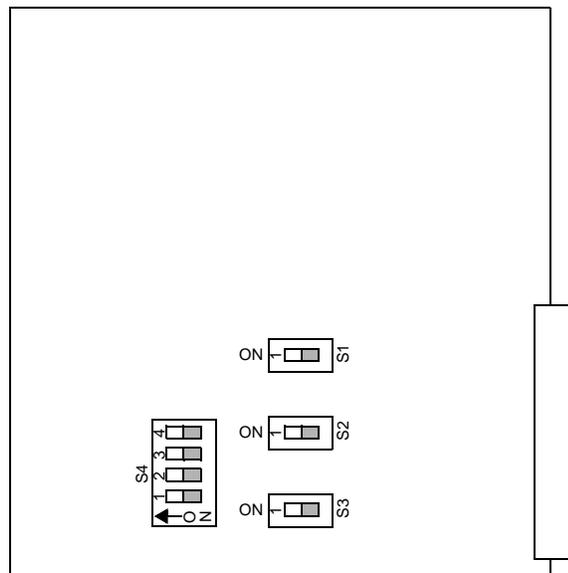

Figure 3-2 2585 module option switch locations
- 3.17 Figure 3-2 provides a diagram of the 2585 module's option switch locations.